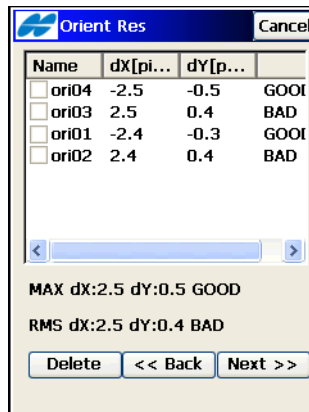

Figure 11-37. Orientation Results
- **Next** – when four or more orientation points have been established, click to display the orientation results (Figure 11-37 on page 11-37).
The *Orientation Results* screen displays the results of the image orientation (Figure 11-37). The results for each orientation point is displayed as dX and dY in image pixels.